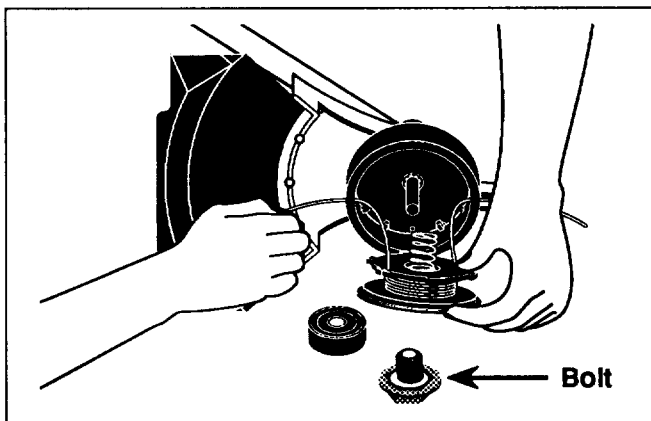

Fig. 18
1. Insert the ends of the line through the eyelets in the outer spool (Fig. 18). While holding the spool inside the reel, pull firmly on both lines to release them from the holding slots in the spool. Continue holding the reel inside the spool.